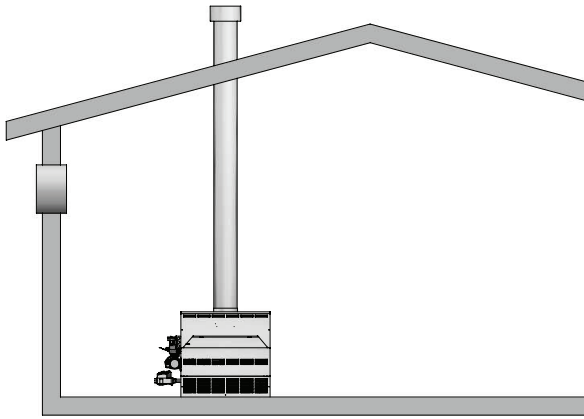

Figure 1-5_ Combustion Air from Outside Single Opening
4. If a single combustion air opening is provided to bring combustion air in directly from the outdoors, the opening must be sized based on a minimum free area of one square inch per 3000 Btu/hr (7 cm² per kW). This opening must be located within 12" (30 cm) of the top of the enclosure (see FIG. 1-5).